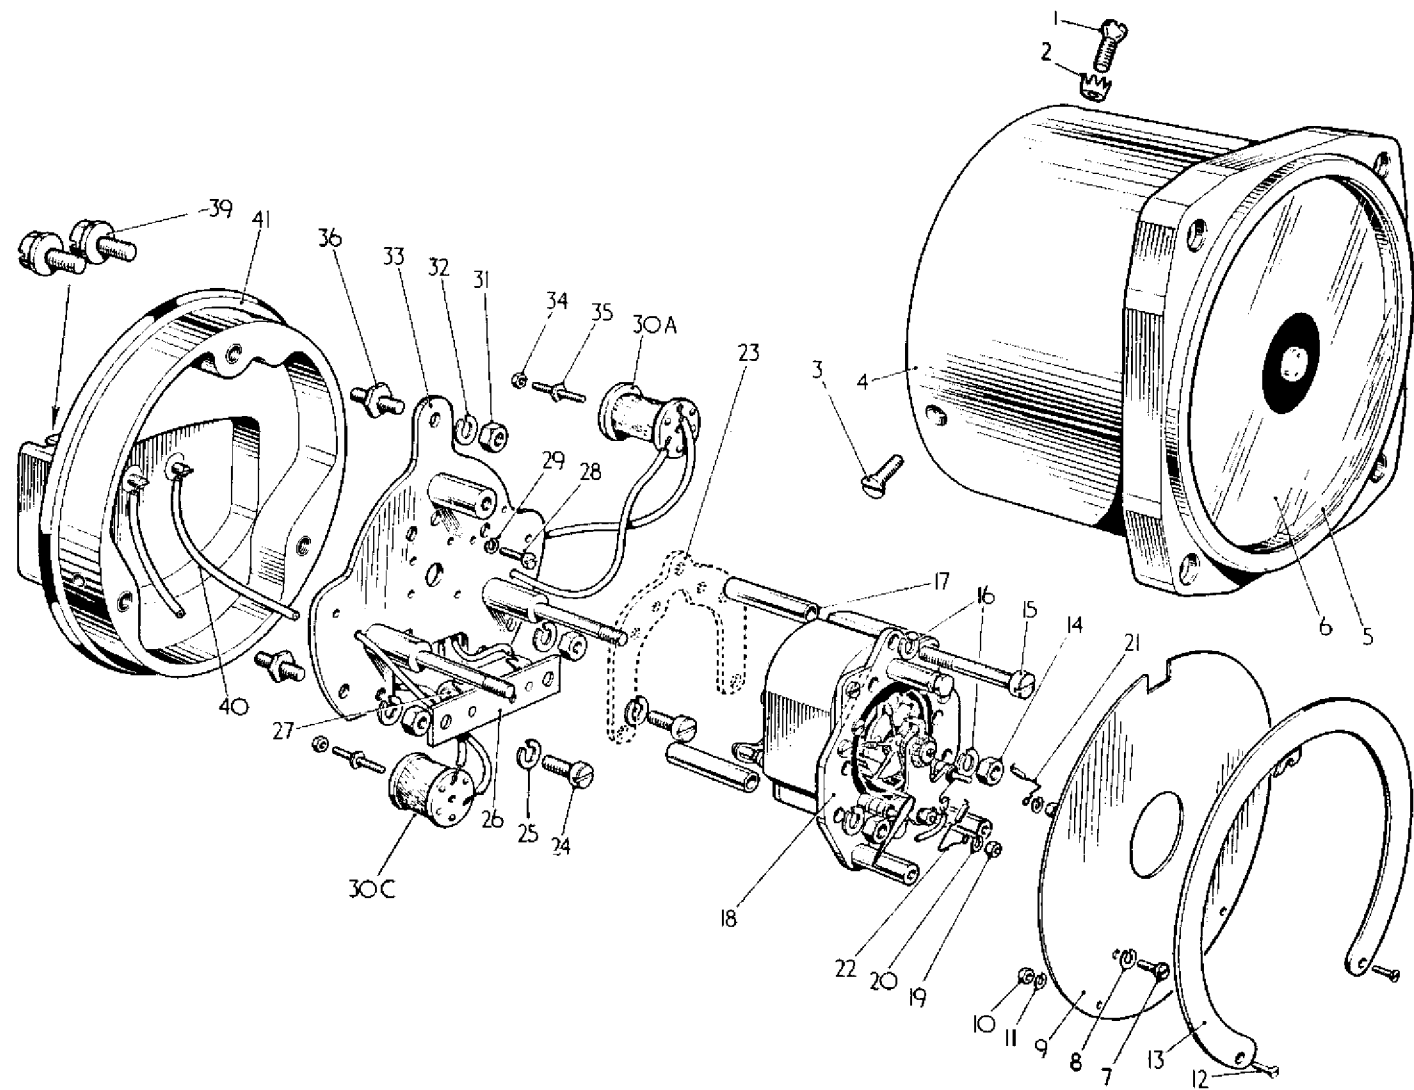

Fig.2 Exploded view of indicator S.218 Form 5
KEY TO FIG. 2
- (5) If the moving element is defective the indicator should be returned to the manufacturer.
- (6) If a spool is found to be defective this may be renewed and the necessary adjustments made as detailed in Paragraph 8 (Testing) of this manual.
- (7) If a thermistor is defective the indicator should be returned to the manufacturer. However, if return of the indicator is considered impracticable, the test and adjustment sequence given in Paragraph 8 (Testing) must be complied with. As previously stated, selection from a batch of thermistors might be necessary before one is found with characteristics to suit the particular indicator circuit. Comprehensive details are given of the breakdown procedure but the degree of breakdown necessary for the indicator being overhauled is left to the discretion of the operator.
B. Procedure (Refer to Fig.2)
- (1) Using a pointed instrument, break out the wax covering the sealing screw (1), remove screw and sealing cup (2).
- (2) Remove screws 3 (2-off) and carefully withdraw cover assembly (4).
- (3) Remove 10 B.A. screws (7) and lockwashers 8 (2 off-each item) from lower scale (9).
- (4) Slide scale upwards slightly to disengage top clip and remove scale together with upper scale (13).